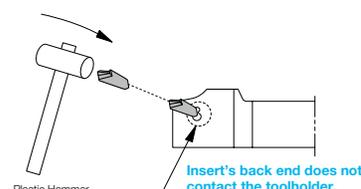

Fig. 1 How to Attach Inserts
1. Tap the insert lightly with a plastic hammer to push it tight enough that it cannot be removed by hand. (Fig.1)